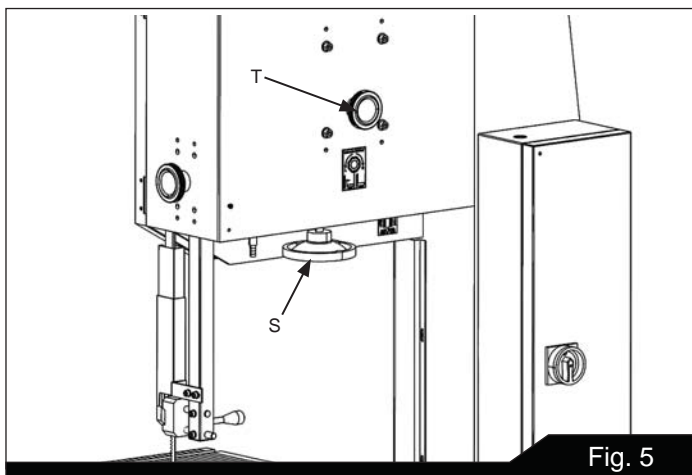

Fig. 5
**Blade Tension Handwheel (S, Figure 5) -**
**Blade Tracking Knob (T, Figure 5) -**